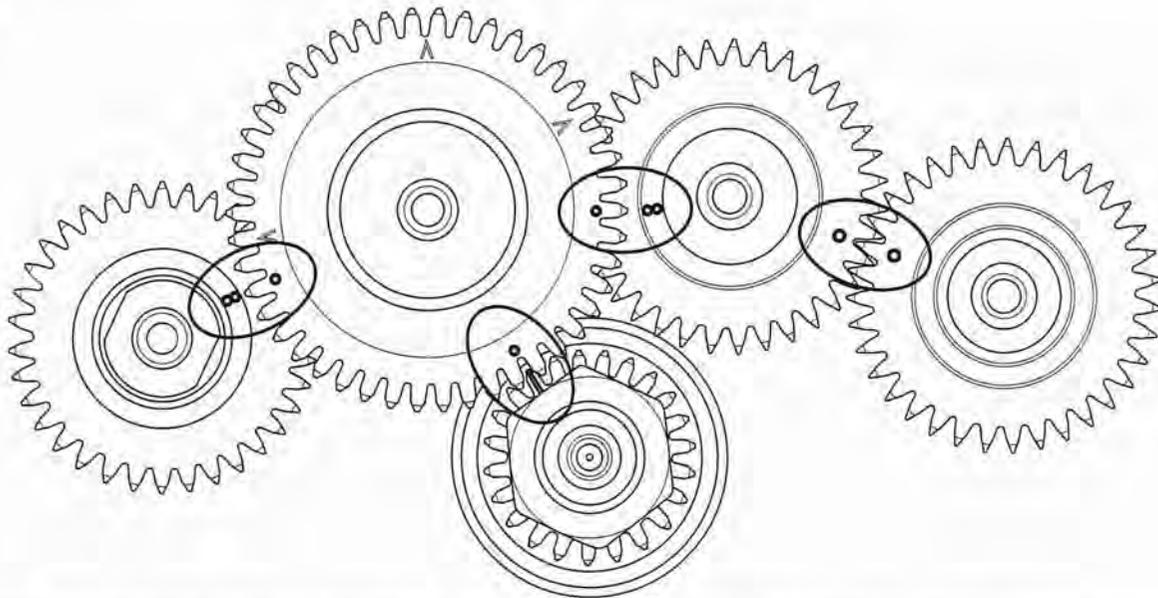

Figure 3-164. Cam and Pinion Gear Timing Marks: XR 1200X (V-marks are not used for timing)
See Figure 3-164. Because of the larger diameter gear on the outboard end of the rear intake cam gear, the rear exhaust, and front intake cam gears must be installed before the rear intake cam gear is installed.
- See Figure 3-164. Rotate crankshaft until timing mark on pinion gear (5) points exactly at centerline of rear intake cam bore.
See Figure 3-164. V marks on rear intake cam are not used for timing of Sportster model engines.
Make sure all timing marks on cams line up correctly, as shown in Figure 3-164. If necessary, remove a cam, rotate it slightly, and replace it. If timing marks are off even one tooth, engine will not run correctly.